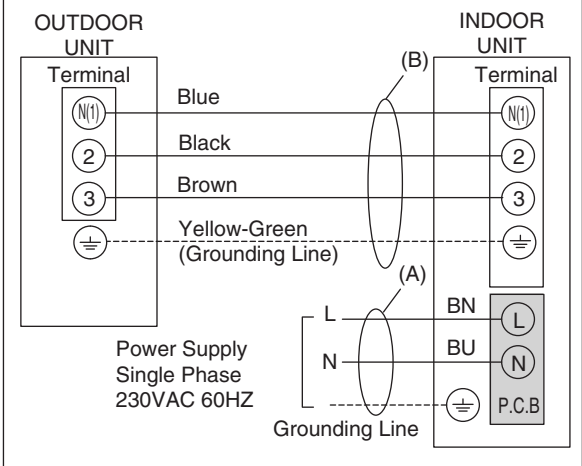

Fig. 18 Outdoor unit draws its power from indoor unit.
Table 1 lists the recommended and max. allowable wire lengths and diameters for the power supply system. Please refer to the wiring system diagram (Fig.18 & 19) for the meaning of "A", "B" in Table 1a,b,c,d.
- (a) Fig.18 (KC9AP, KC12AP, KC18AP, KC25AP)